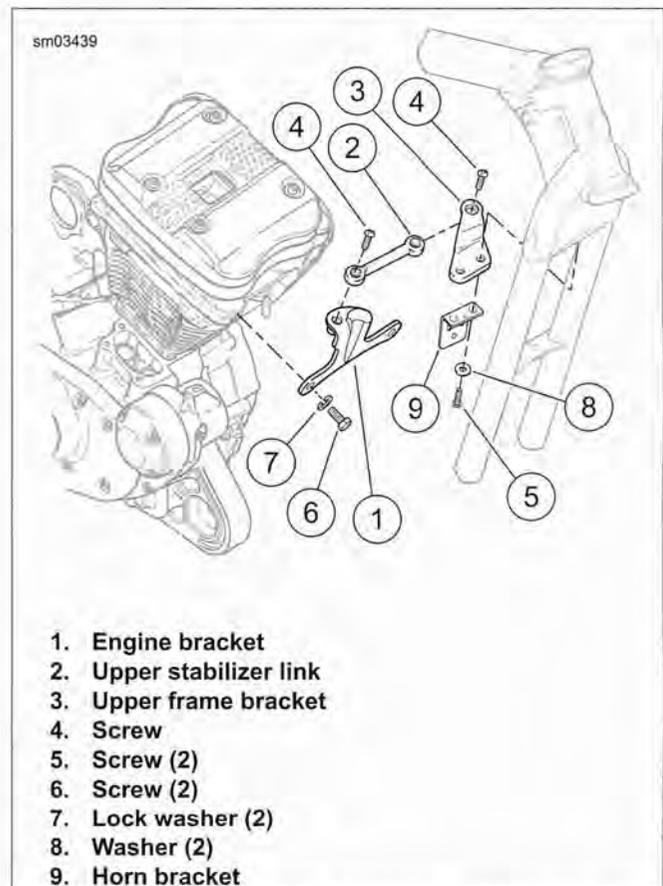
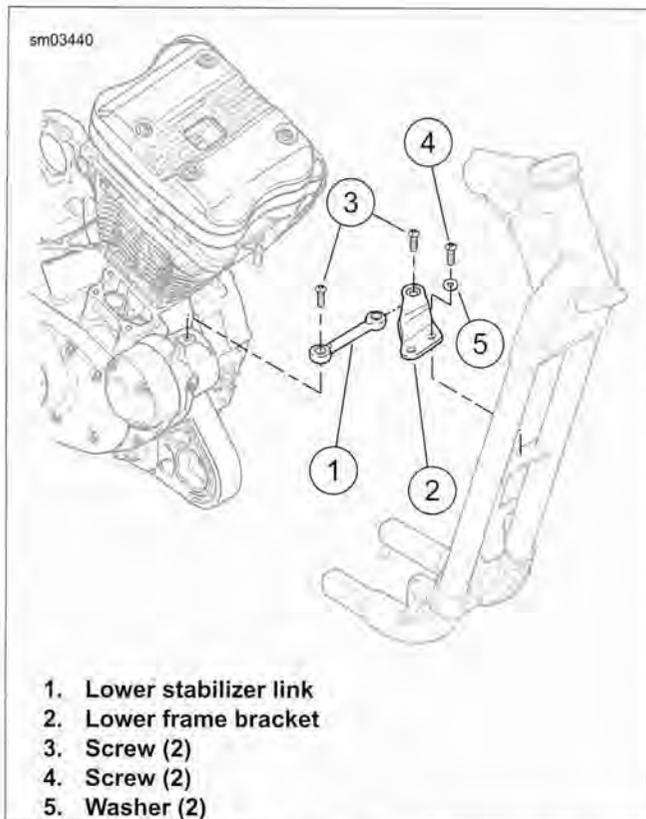
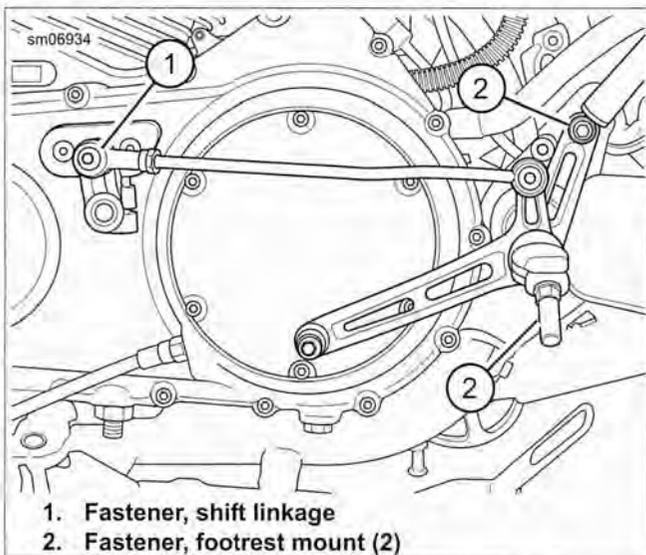

Figure 3-23. Upper Front Stabilizer Link Assembly
Figure 3-24. Lower Front Stabilizer Link Assembly (typical)
Figure 3-25. Left Footrest and Shift Linkage
31. See Figure 3-23. Remove upper stabilizer link (2), cylinder head stabilizer bracket (1) and the upper frame bracket (3):
- a. Remove screw (4) securing stabilizer link to cylinder head bracket (1).
- b. Remove screws (5) and washers (8). Remove horn bracket (9) and upper stabilizer link bracket (3) with stabilizer link.
- c. Remove screws (6) and lock washers (7) and the cylinder head bracket (1).
32. See Figure 3-24. Remove lower stabilizer link (1) and lower frame bracket (2) as an assembly:
- a. Remove screw (3) securing stabilizer link to engine crankcase boss.
- b. Remove screws (4), washers (5) and lower frame bracket with stabilizer link.
33. See Figure 3-25. Remove fastener (1) and disconnect shift linkage from transmission shift lever.
34. Remove fasteners (2) and remove rider left footrest and mounting bracket assembly along with foot shift lever and linkage.